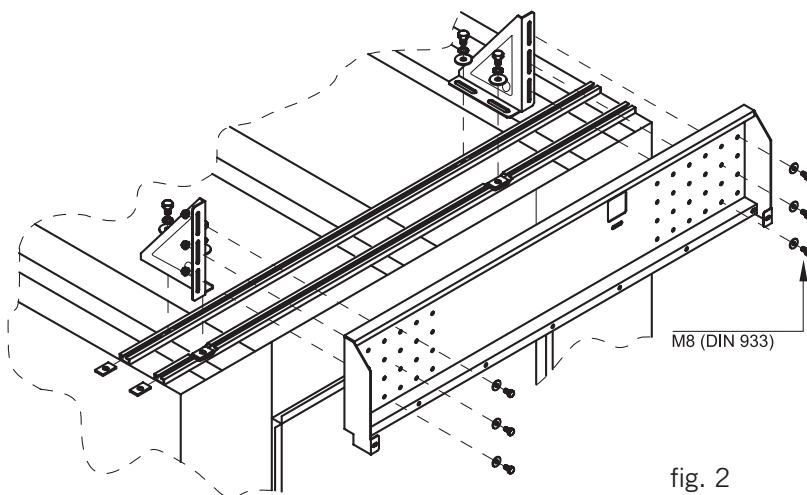

fig. 2
- 3° Tighten the operator to the brackets (fig. 2).
- 3° Tighten the air cord clamps (fig. 2).
- 2° Tighten the air cord clamps (fig. 2).